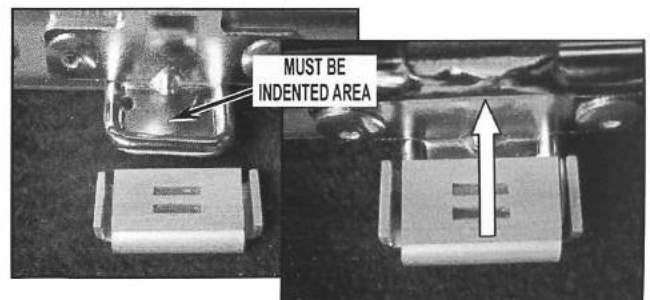

FIGURE 10
- Ensure that long flat end of bracket is facing the top side of the rack and the slotted side is facing the bottom side of the rack. See Figure 10.
- Place bracket over the tab of the rack and press on completely. See Figure 10.